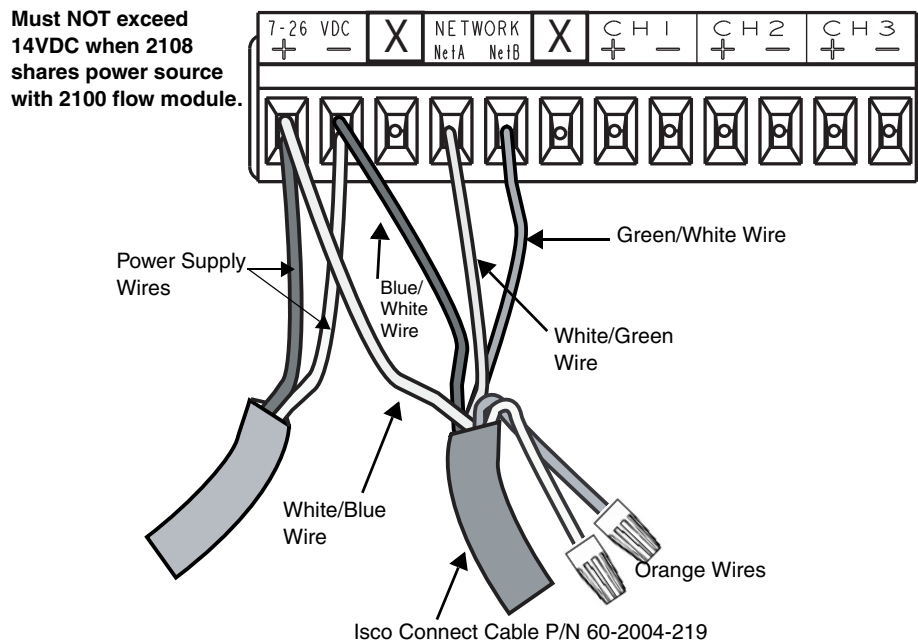

Figure 2-5 Terminal Connections if Flow Module and 2108 Share Same Power Source
7. Your connections should look like those in Figure 2-5.